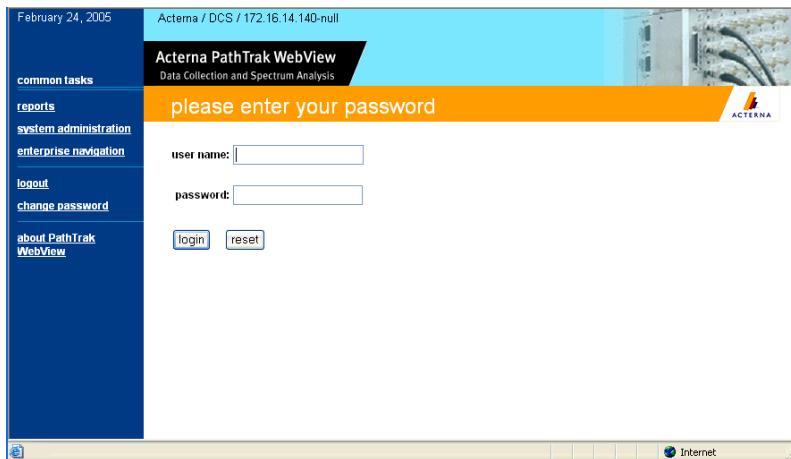

Figure 17 Log In Page
The PathTrak WebView login page (Figure 17 on page 19) is loaded.
- Logging In** 1 Enter a valid username and password and click the **login** button (Figure 17 on page 19).